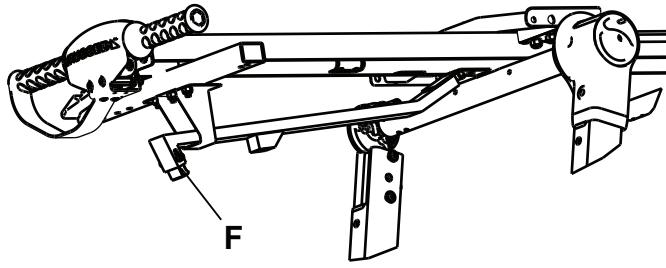

Figure 17 – Hook tip adjustment
2. Test unloading the cot from a vehicle to confirm that the safety hook connects with the catch plate. Using an M5 Allen key, adjust the hook tip (F), as needed, to make sure that the safety hook and catch plate connect while unloading (Figure 17).